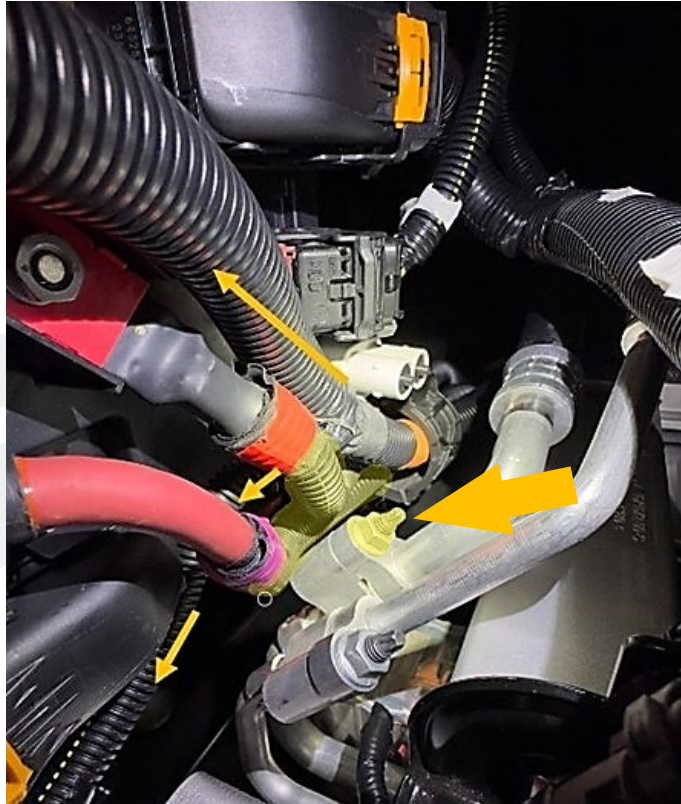

Figure 15
- a. Position the RH frame harness away from the thermal hose stud and arrange the harness as shown in Figure 15.